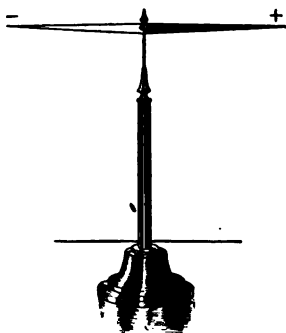
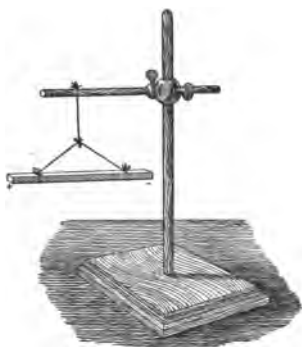

FIG. 187. A convenient form of magnetic needle for laboratory use.
FIG. 190.
(Fig. 185). Some are U-shaped and are called horseshoe magnets (Fig. 186). The needle of a compass is a light bar magnet. A convenient form of a magnetic needle for laboratory use is shown in Figure 187.
Place the needle back on its support and bring a piece of iron near either end. Does the iron also attract the needle at both ends? A bar magnet, suspended as shown in Figure 190, may be used in this experiment if a suitable compass needle is not at hand.
**Exercise 8.** Present to either end of a magnetic needle (Fig. 187) or of a suspended bar magnet (Fig. 190) the north and south poles of a second bar magnet. What results do you get?